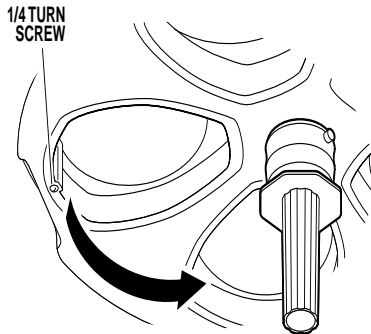

Figure 1-1.
- a. Hold the diffuser/filter assembly with one hand, loosen the "1/4-turn" screw and lower the diffuser/filter assembly. See figure 1-1.